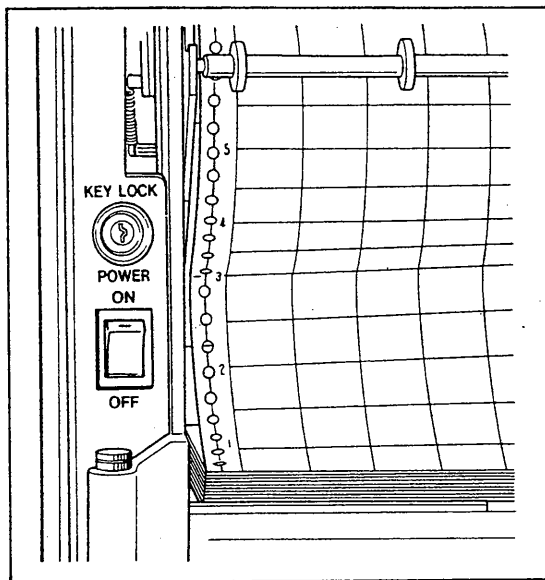

Figure 5-14. Location of POWER Switch.
- (1) Open the recorder front door. Turn the POWER switch OFF (see Figure 5-14).